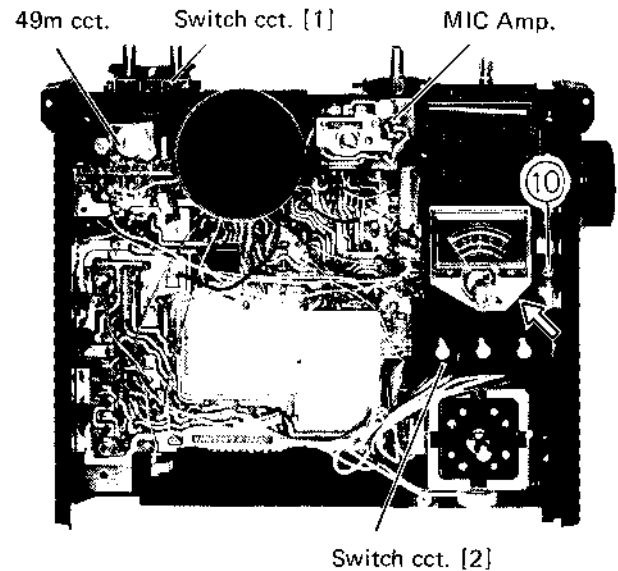

Fig. 3
B. Triple Indicator (Refer to Fig. 3)
Insert a screw driver into the right lower corner of the indicator section (in accordance with the arrow mark as illustrated in Fig. 3), and gouge out the indicator.
STRING DIAL CORD (Refer to Figs. 3, 4 & 5)
2. Remove the screw (10) : SBSB3008Z then the dial scale section can be removed. (Refer to Fig. 3)